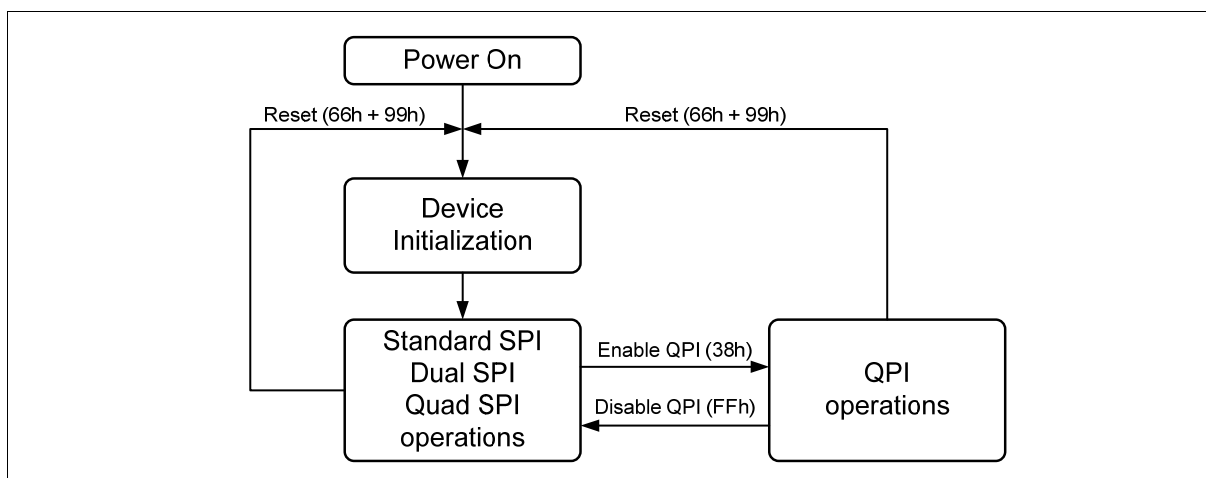

Figure 2 FM25Q08 Serial Flash Memory Operation Diagram
The FM25Q08 supports Quad Peripheral Interface (QPI) operations only when the device is switched from Standard/Dual/Quad SPI mode to QPI mode using the “Enable QPI (38h)” instruction. The typical SPI protocol requires that the byte-long instruction code being shifted into the device only via DI pin in eight serial clocks. The QPI mode utilizes all four DQ pins to input the instruction code, thus only two serial clocks are required. This can significantly reduce the SPI instruction overhead and improve system performance in an XIP environment. Standard/Dual/Quad SPI mode and QPI mode are exclusive. Only one mode can be active at any given time. “Enable QPI (38h)” and “Disable QPI (FFh)” instructions are used to switch between these two modes. Upon power-up or after a software reset using “Reset (99h)” instruction, the default state of the device is Standard/Dual/Quad SPI mode. To enable QPI mode, the non-volatile Quad Enable bit (QE) in Status Register-2 is required to be set. When using QPI instructions, the DI and DO pins become bidirectional DQ₀ and DQ₁, and the WP# and HOLD# pins become DQ₂ and DQ₃ respectively. See Figure 2 for the device operation modes.